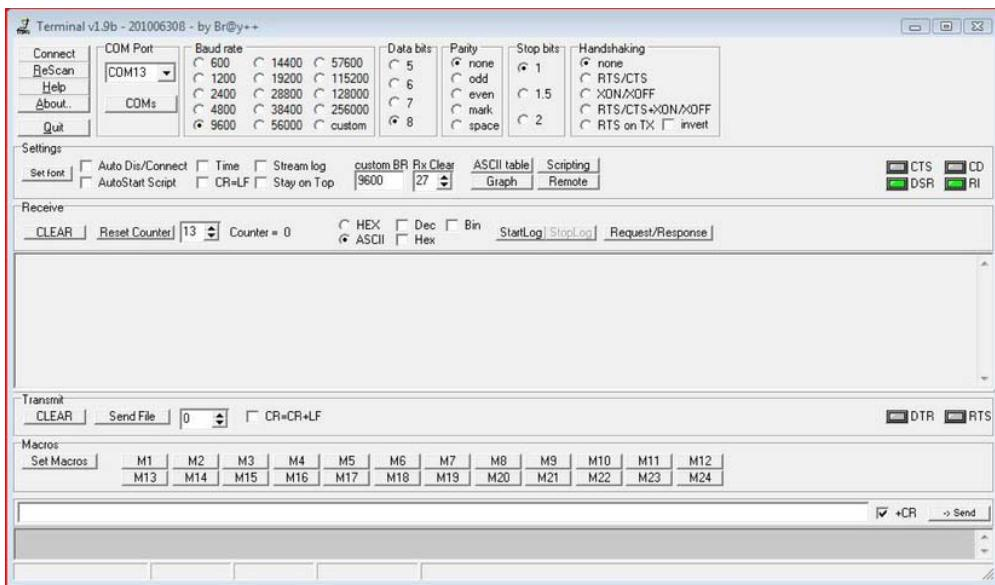

Figure 9-3. Terminal program
3. Unzip the terminal program to your desktop. You don't have to install this software after you are done unzipping it; double-clicking the icon will prompt the program to start. Figure 9-3 shows the terminal program.